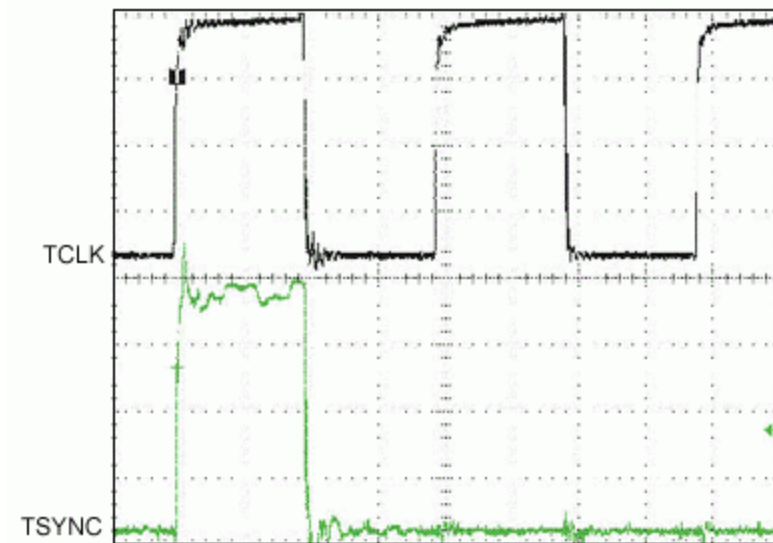
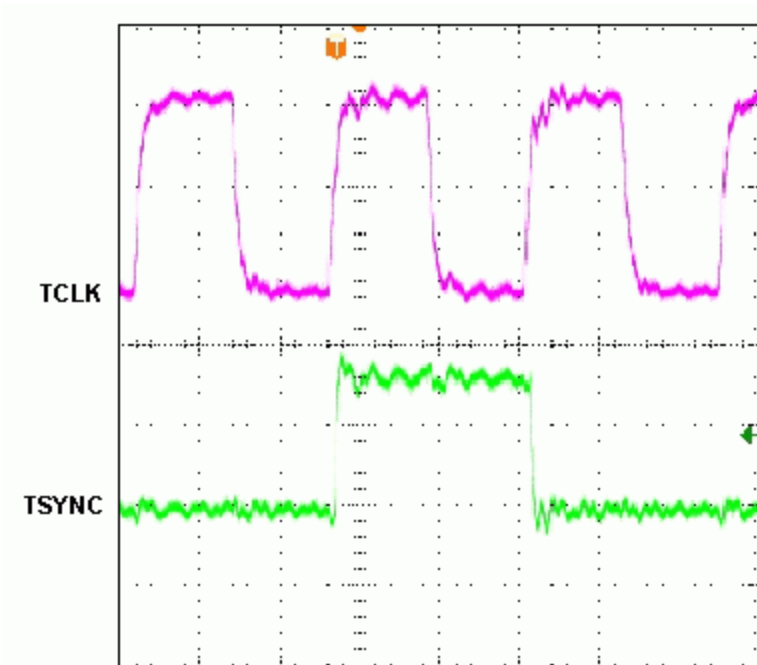

Figure 4. Transmit-side timing between TSYNC and TCLK taken from an oscilloscope.
Figure 5. Transmit-side timing between TSYNC and TCLK taken from an oscilloscope after widening the TSYNC pulse.
**Figure 4** is the scope image of a possible valid timing diagram between TSYNC and TCLK for the DS2154 A2 revision. However, this is not valid for the DS2154 D1 revision.
Figure 4 shows the falling edge of TCLK and TSYNC as being nearly simultaneous. In the D1 revision, the incoming TSYNC is sampled at the falling edge of TCLK. In order to get the correct sampling, the user needs to add 25ns or more delay onto TSYNC. The user can also make the clock pulse of TSYNC wider. This way, the user can solve the sampling problem. The A2 revision of the DS2154 has a rising edge detector to aid in aligning TSYNC with TS0. The D1 revision of the DS2154 simply samples TSYNC with the falling edge of TCLK. **Figure 5** shows the timing diagram between TCLK and TSYNC after making the TSYNC pulse wider.